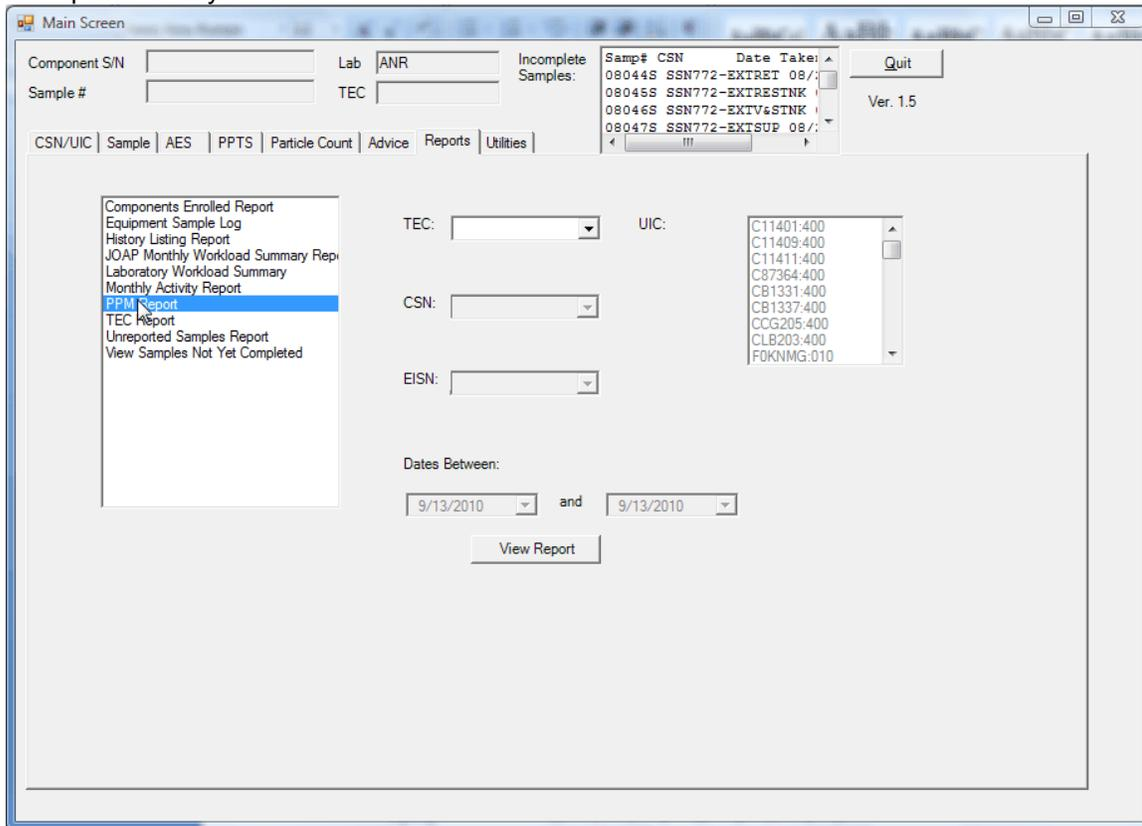

Figure 53. PPM Report
- f. PPM Report. Click on PPM report and the following screen will appear (Figure 53). Use the pull downs to select options in any of the white boxes